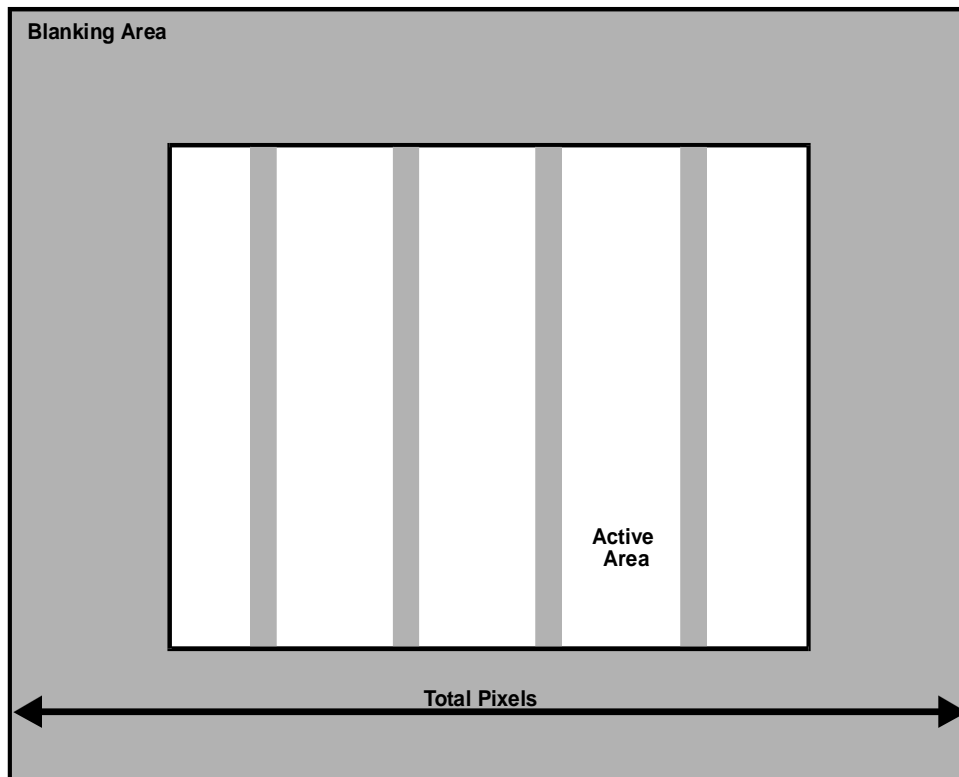

Figure 4. Incorrect Total Pixels
In **Figure 4**, the total pixels are adjusted incorrectly. There are several ways to set the total pixels. It is best to set the total pixels according to the input signal specifications. Otherwise, if the input pixel clock is known, the input total pixels may be calculated using one of the methods shown below:
- **Adjust the input total pixels to minimize any faint vertical lines** that may be seen within the image, as shown below in Figure 4.
4. Set input total pixels to minimize faint vertical lines (see Figure 4).